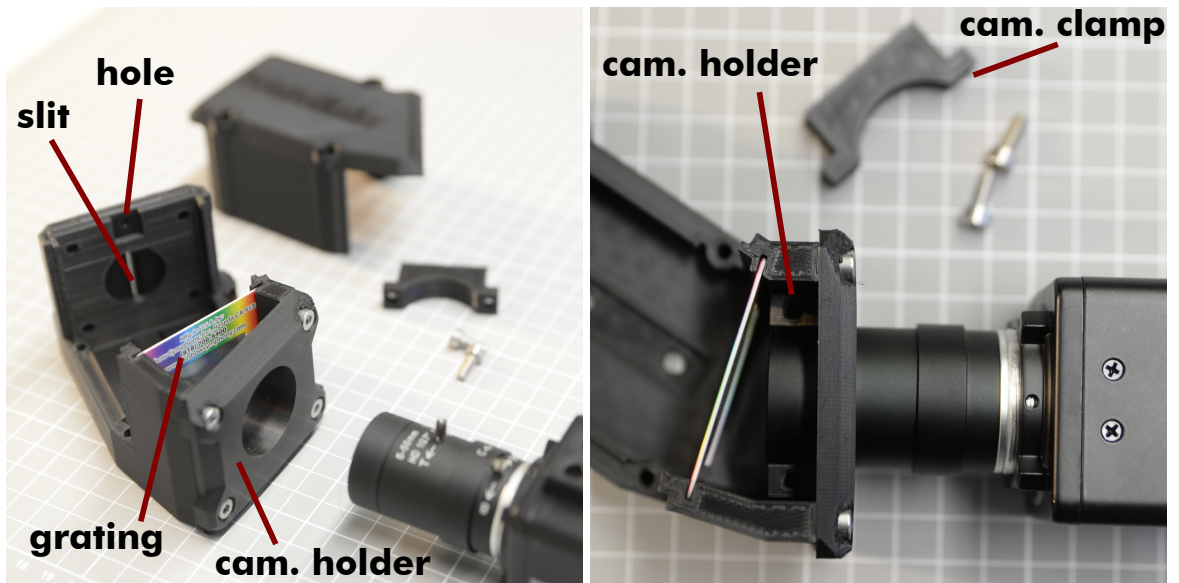

Figure 2: Assembly steps
2. Place the slit-frame at the front of the main body (see left image of Figure 2). Make sure that the small hole is facing upwards. You can easily remove the slit and replace it by a wider or thinner one, if you want.
5. Finally as shown in the right part of Figure 2, insert your C-mount camera with the attached lens into the camera holder and attach the lens to the main housing/camera holder using the clamp. Make sure that only the front part of the lens is clamped so that you can still adjust the focal length, focus and aperture of the lens. It is also helpful to align the camera housing so that the sensor is parallel to the housing.